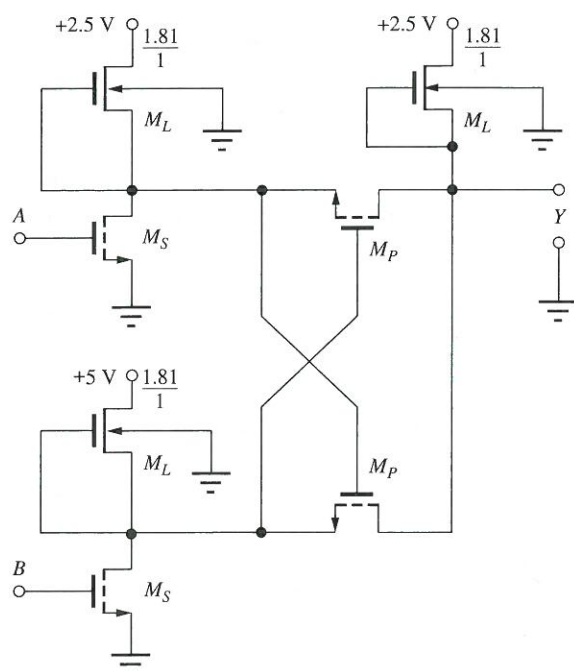

Figure P6.123
- *6.123. (a) What is the truth table for the logic function Y for the gate in Fig. P6.123? (b) Write an expression for the logical output of this gate. (c) What are the sizes of the transistors M_S and M_P in order for $V_L \leq 0.20$ V? (d) Qualitatively describe how the sizes of M_S and M_P will change if body effect is included in the models for the transistors. (e) What is the name for this logic function?